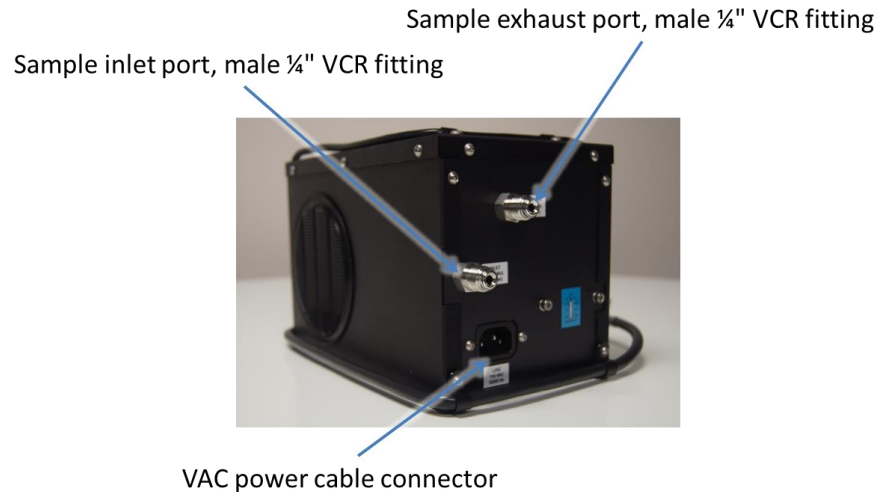

Fig. 4, Front view
The sample inlet port is a male 1/4" VCR fitting in the RSM chassis for pneumatic interfacing with the measured process (see Figure 4). It is the single sample gas inlet to the RSM.
The sample exhaust port is a male 1/4" VCR fitting in the RSM chassis (see Figure 4). It is a common exhaust line, supplied by both the sensor stream and sample bypass stream in the RSM. It should be connected to a suitable vent location.
The Model 3-SPM-N1-SS requires 110 or 208 VAC input voltage. The power cable connector is a standard 3-prong grounded male connector, IEC 60320-1 C14 style (see Figure 4).
- ▶ Locate the sample inlet tubing connection on the chassis (see Figure 4). These VCR fittings do not require tightening to a specific torque level.
- ▶ Locate the sample outlet tubing connection on the chassis (see Figure 4). These fittings do not require tightening to a specific torque level.